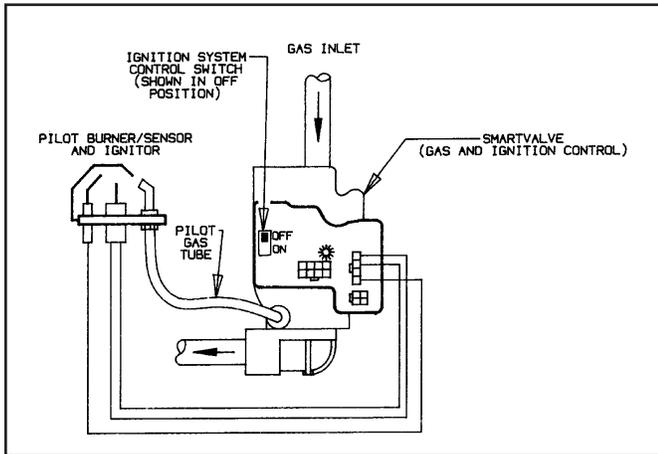

Figure 9.
With main burners firing, disconnect sensor and ignitor wires by removing plug-in wires from C2 connector on the Smart Valve (see Figures 9 and 10). Gas valve should shut off the main burners. After approximately 90 seconds, the diagnostic indicator light should flash 6 times.
1. Disconnect sensor and ignitor wires by removing plug-in wires from C2 connector on the Smart Valve (see Figures 9 and 10).